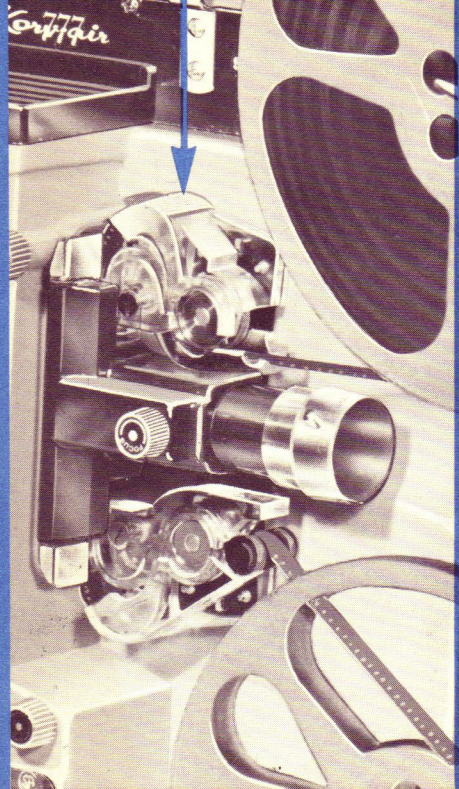

FIG. 6
6. Press down and close loop setters. (fig. 6)